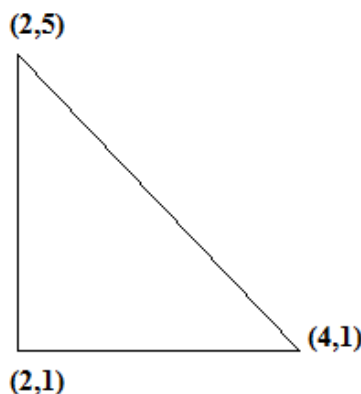

Figure.1
b) Evaluate the strain displacement matrix and constitutive matrix for the elements shown in Figure.1. Assume plane strain conditions. Take $E=200\text{GPa}$ and $\nu=0.3$. The coordinates shown in figure are in mm. 6M